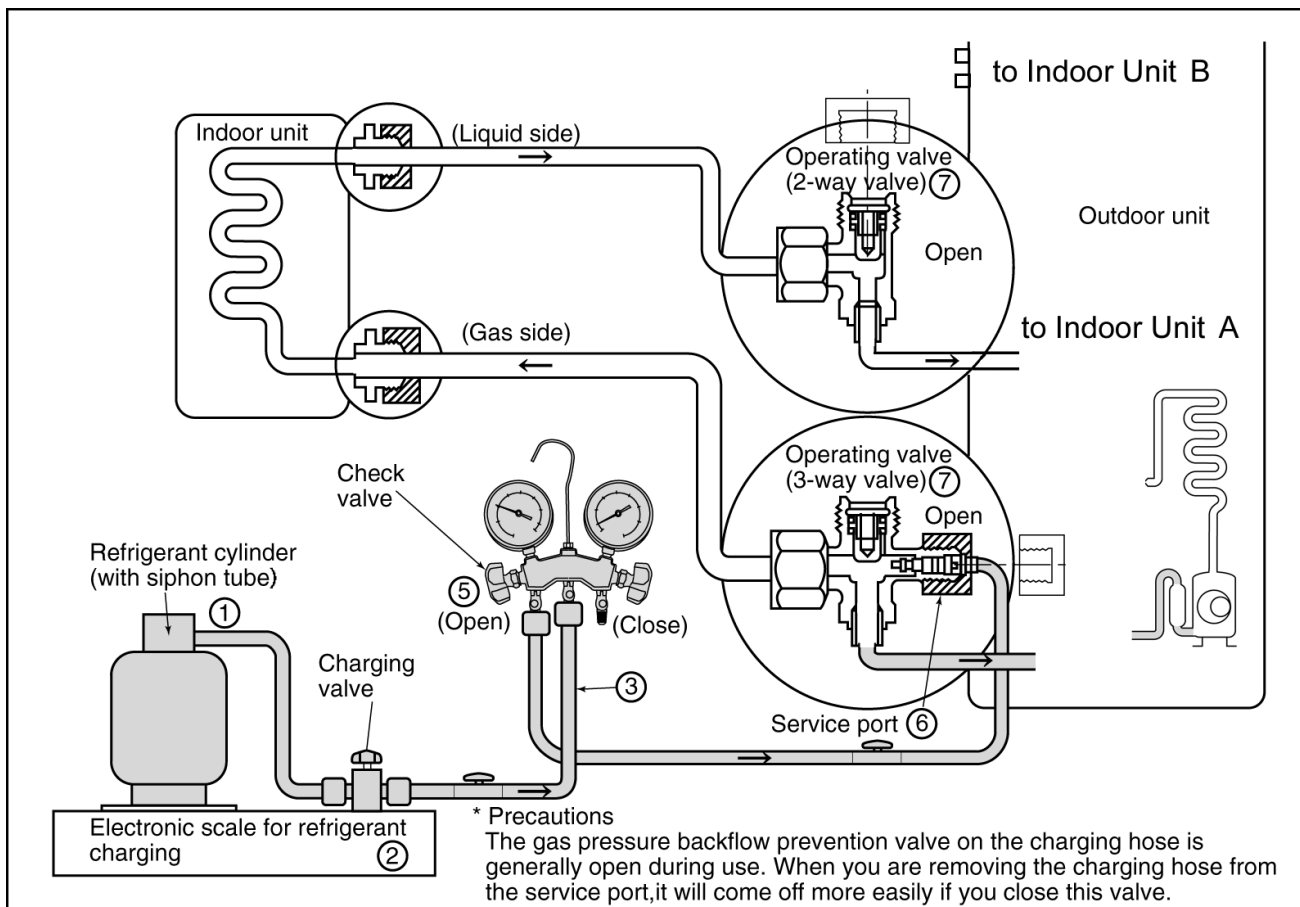

Fig. 13 Re-charging refrigerant
4. Confirm that the low pressure gauge shows a reading of -0.1 Mpa (-76 cmHg), then fully close the handle Lo, and turn off the vacuum pump. Wait for 1-2 minutes, then check to make sure that the needle of the Low pressure gauge has not returned. See Fig.13 for the remaining steps of this procedure.
5. Set the refrigerant cylinder onto the electronic scale, then connect the hose to the cylinder and to the connection port for the electronic scale. (1)(2)